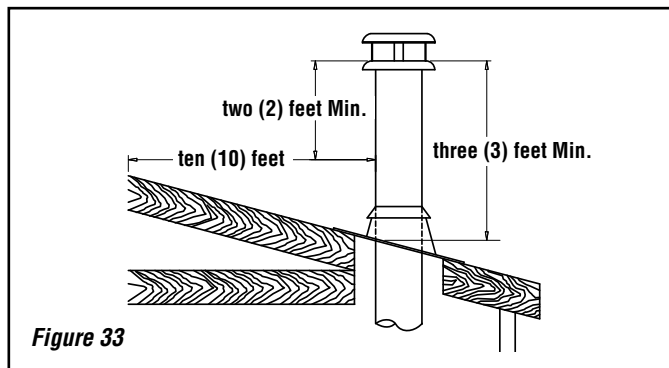

Figure 33
4. The minimum chimney height is twelve (12) feet (3.7 m). To compensate for altitude, add 18" (450 mm) to the chimney for every 2,000 feet (600 m) above sea level.
5. **All chimney installations must include at least one support.** Reducing the amount of chimney weight on the fireplace will help avoid the noise created when the fireplace expands. This can be achieved by having the chimney supported by the supports. The maximum chimney length that can be supported by the fireplace is nine (9) feet (2.75 m).
6. The chimney must extend at least three (3) feet (915 mm) above its point of contact with the roof and at least two (2) feet (610 mm) higher than any wall, roof or building within ten (10) feet (3m) of it (**Figure 33**).
7. If the chimney extends higher than five (5) feet (1,500 mm) above its point of contact with the roof, it must be secured using a roof brace.